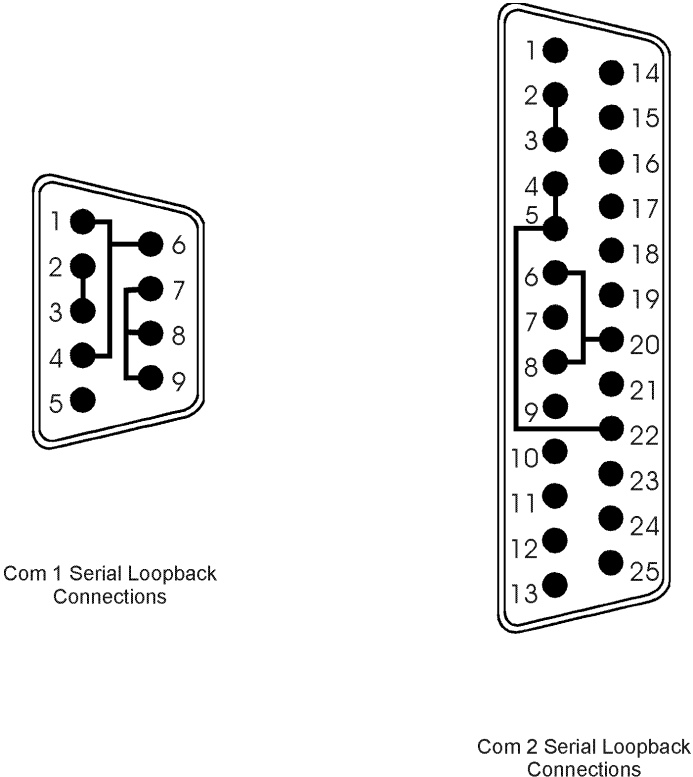

Figure 2-1. Serial Loopback Connections
- Two serial loopback test connectors (refer to Figure 2-1 for pinouts)